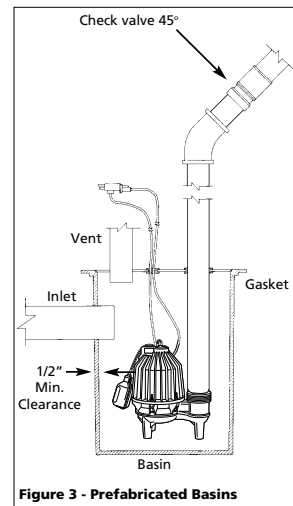

Figure 3 - Prefabricated Basins
- The pump has a detachable tether switch with a piggyback plug (see figure 3). The length of the tether (distance of cord from float to clamp) should not be set shorter than 3-1/4 inches and should not be used in a basin smaller than 14 inches in diameter. If using a differential other than the factory setting, be sure when the pump shuts off at least 4" of fluid is left in the basin so the impeller remains submerged.